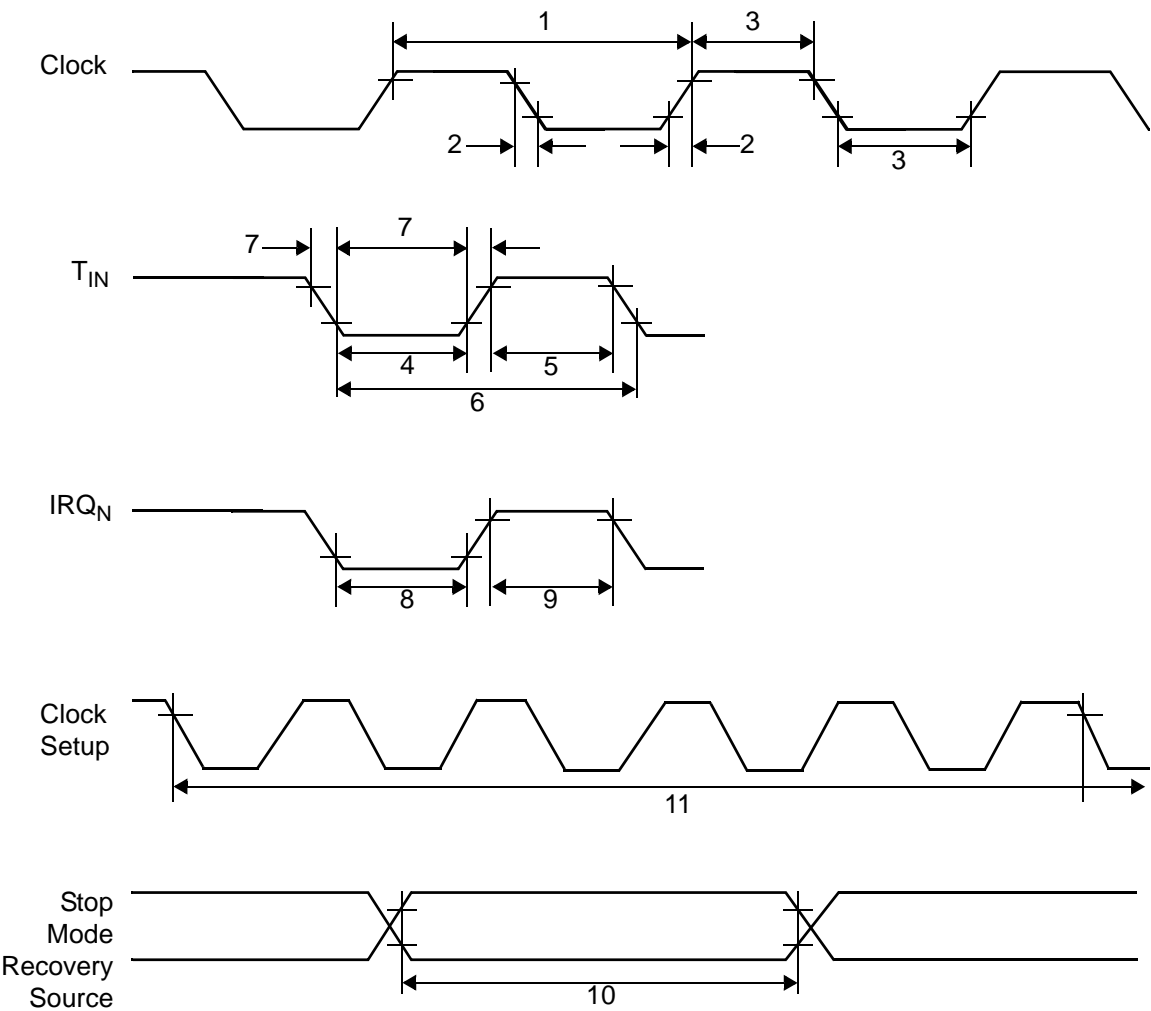

Figure 7. AC Timing Diagram
Figure 7 and Table 10 describe the Alternating Current (AC) characteristics.